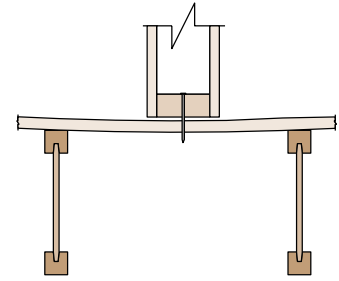

Figure 17
**Floor squeaks at interior partitions** (both parallel and perpendicular to TJI® joists) are usually caused by the partition being nailed only to the floor sheathing. When load is applied, the sheathing deflects and rubs on the shank of the nail, resulting in a squeak (Figure 17).